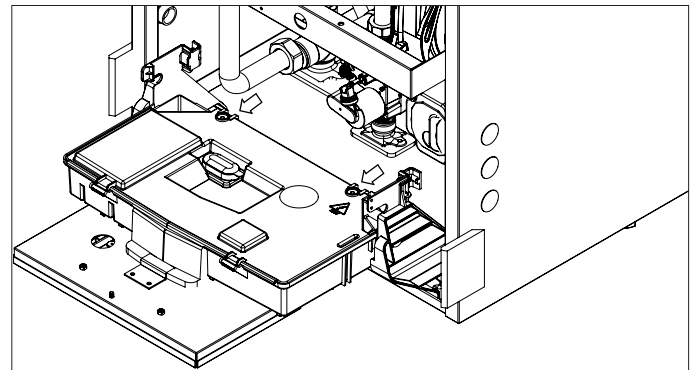

Figure 5 - Releasing the Two Clips
6. Disconnect the two clips. See Figure 5.